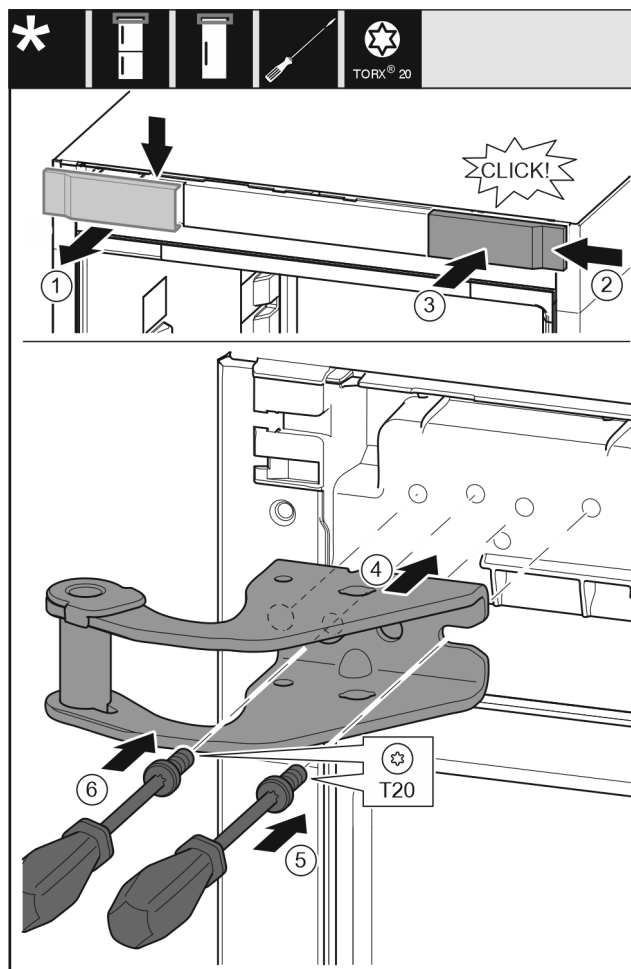

Fig. 14
- Take off the cover to the front from above. Fig. 14 (1)
- Rotate the cover 180° and clip onto the other side from the right. Fig. 14 (2)
- Latch the cover into place. Fig. 14 (3)
- Position the upper bearing bracket. Fig. 14 (4)
- Insert the screw with a T20 screwdriver and tighten it. Fig. 14 (5)
- Insert the screw with a T20 screwdriver and tighten it. Fig. 14 (6)